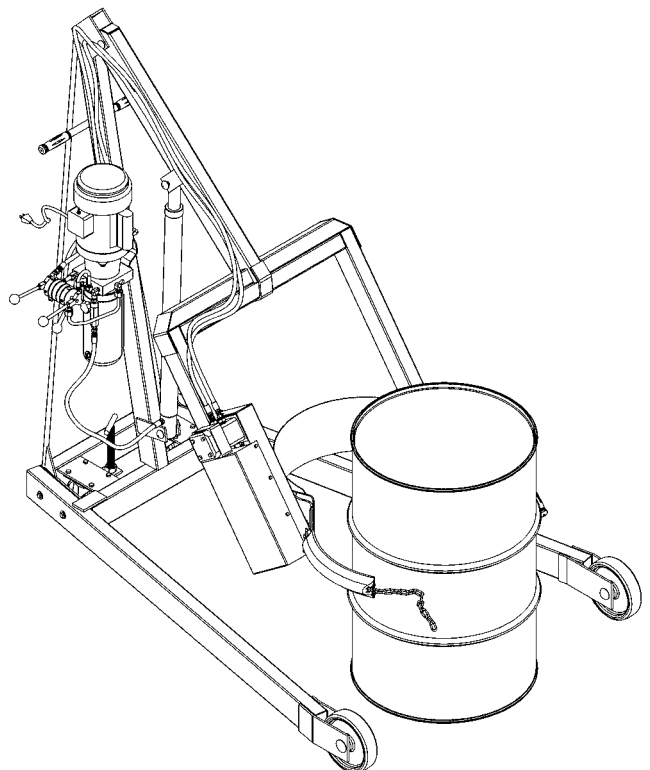

Figure 3.1
The step-down floor lock is located behind the base (figure 3.1). To activate, step down on the floor lock until it locks in down position. When floor lock is activated it prevents unwanted free wheeling of unit. Floor conditions determine effectiveness of floor lock. Operator should verify its holding action before depending on it to hold.
- 2.) Using “LIFT” control as described in “**Machine Description - Controls**”, position drum holder assembly with back band at middle of drum. (Figure 3.1). With ratchet plate swung open and cinch chain hanging from chain hook, push unit until back band rests firmly against drum. Some adjustment to tilt angle of saddle may be necessary to ensure band fits flush on drum.